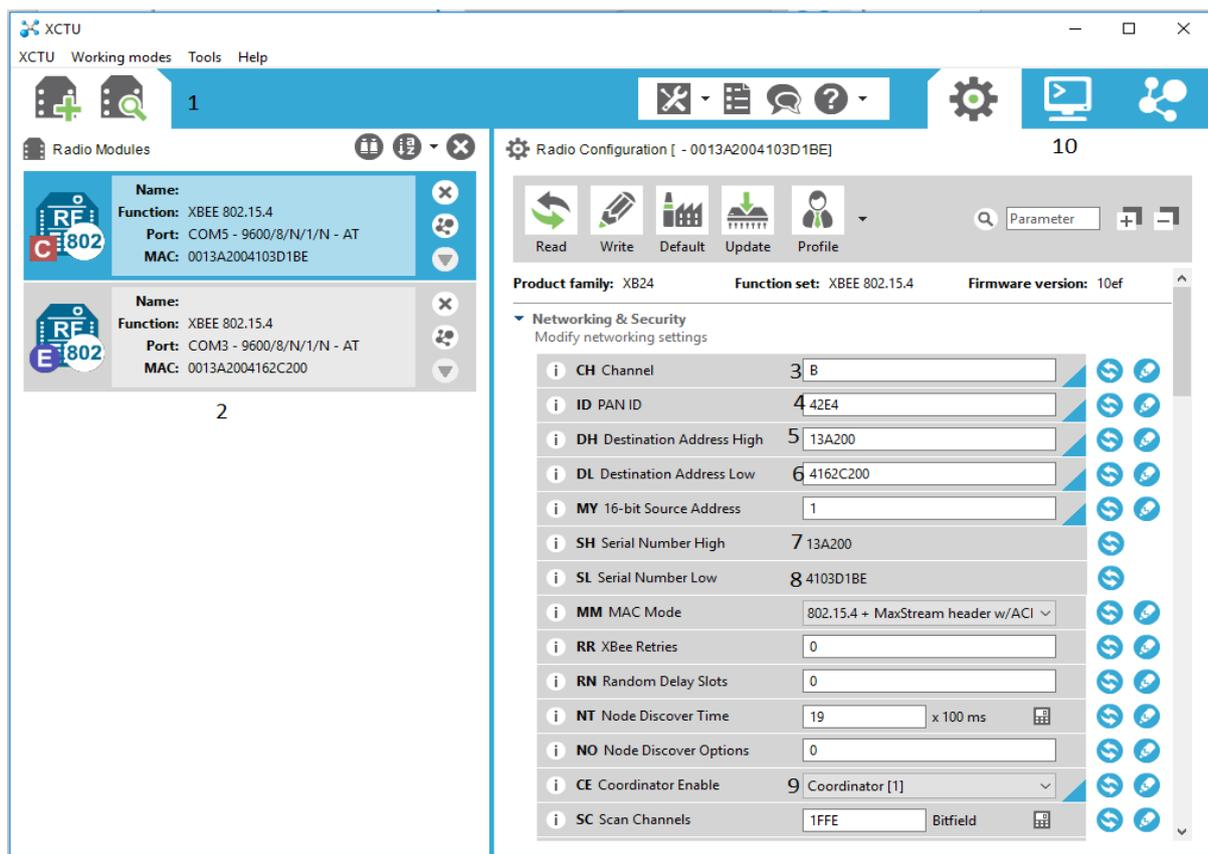
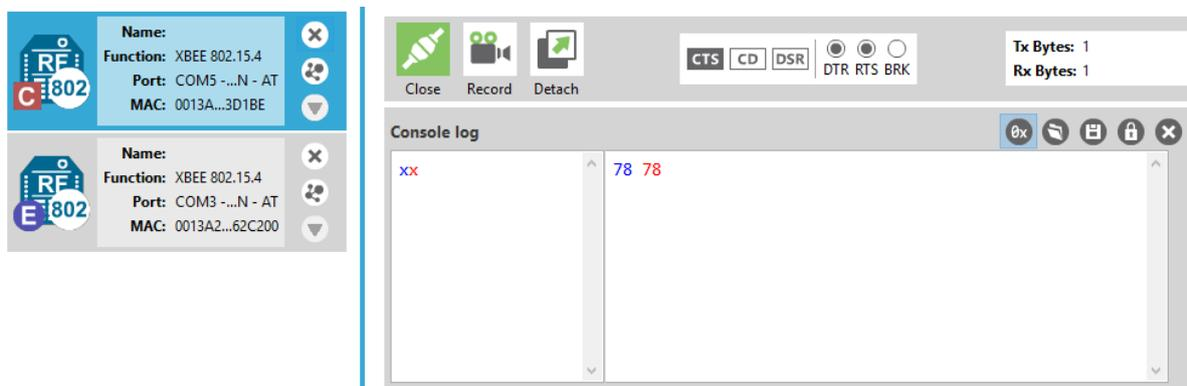

Figure 26. XCTU user interface.
Figure 27. Coordinator sending data (blue) and receiving data (red).
use graphical interface as shown in Figure 26. The first step for interfacing with the XBee modules is to detect the devices (1). When detected they appear as separate icons in the Radio Modules field (2). In order to establish a connection between the XBee's, their channels (3) and PAN (Personal Area Network) have to have the same value. Here the channel value goes from 0x0B to 0x1A (11-26) which represent the channel numbering of the 2.4 GHz frequency band –  $F_c = 2405 + 5(k - 11)$  in megahertz, for  $k=11,12,..26$ . Furthermore, the destination address DH and DL (5 and 6) on one of the XBees have to be identical to the serial numbers SH and SL (7 and 8) on the other XBee and vice-versa. In order to meet the 802.15.4 network topology requirements, one of the XBee modules is set to be a PAN coordinator (9) in order to establish a star topology. Finally, the console working mode (10) is entered so that data can be inputted and transmitted between the devices. This is shown in Figures 27 and 28.
In order to establish a connection between the USRP and the XBees the carrier frequency must be set in order to match the channel of the XBees. From Figure 26 the channel is B which from hexadecimal is 11 → carrier frequency of 2.405 GHz must be chosen (Note: The USRP suffers from high carrier frequency offset, which is more than the 802.15.4 standard can cope with.).